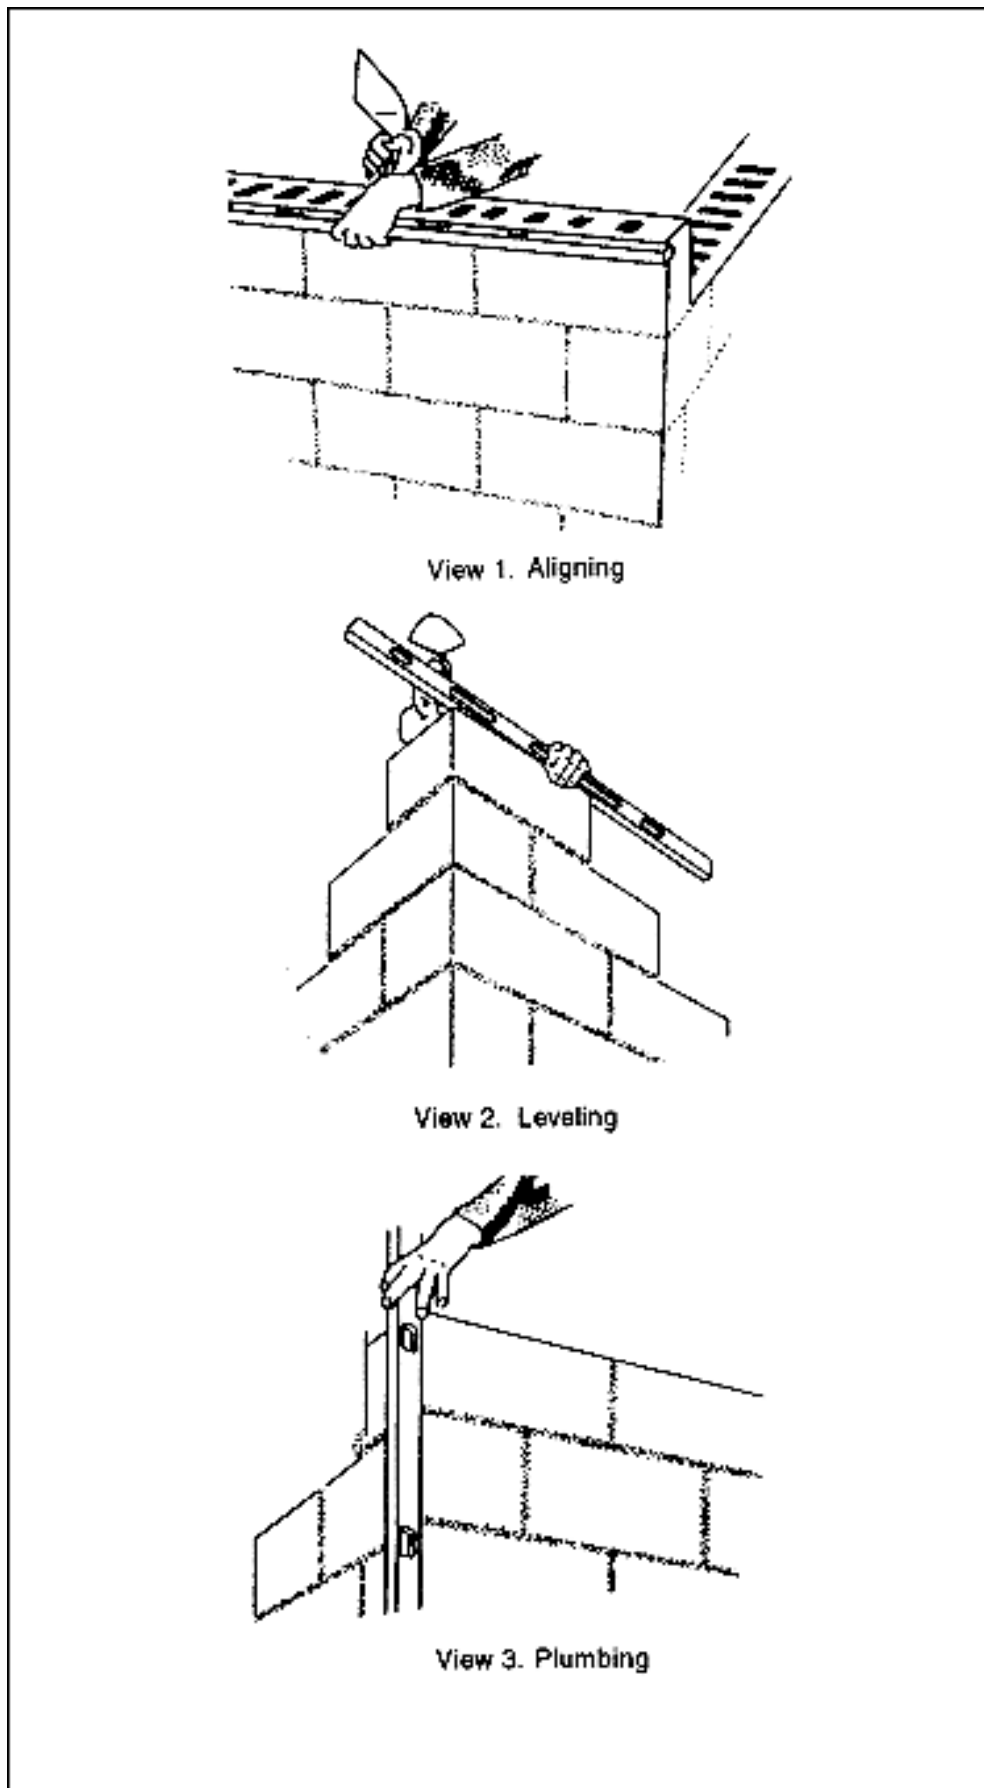

Figure 8-8. Checking each course at the corner
Step 4. Lay each course at the corner, check it with a level for alignment for leveling and for ensuring that it is plumb (see Figure 8-8).